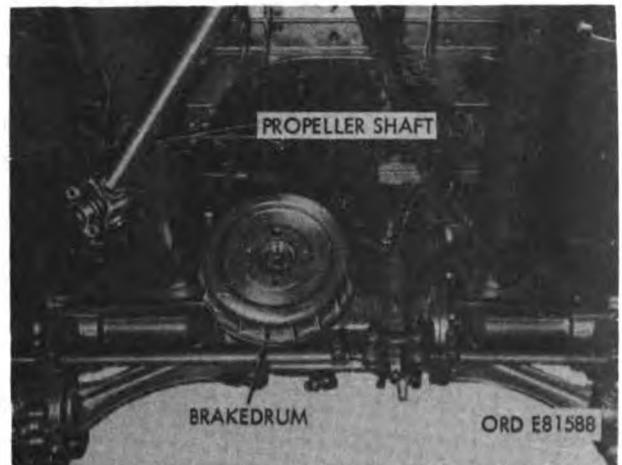
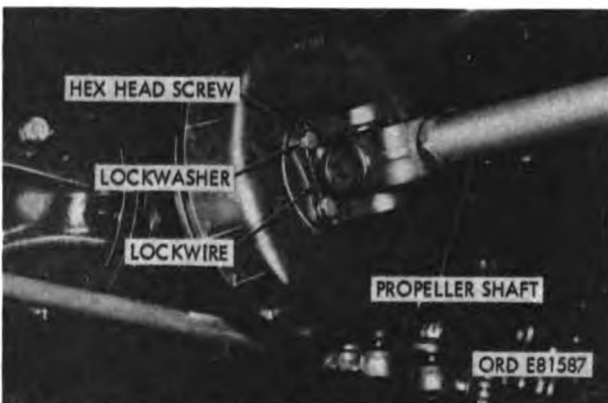
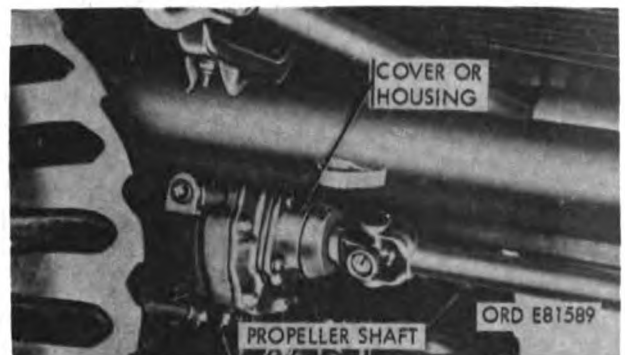

Figure 2-46. Removing or installing propeller shaft.
Figure 2-45. Propeller shaft—front end.
Figure 2-47. Propeller shaft—rear end.
a. *Removal.* Remove two lockwires, four hex-head screws and lockwashers (fig. 2-45) securing front end of propeller shaft to brake-drum and front companion flange. Move front end of propeller shaft to clear brakedrum (fig. 2-46) and pull rear end of shaft off of drive pinion shaft of transmission (fig. 2-47). Be careful not to bur splines on shaft or yoke.